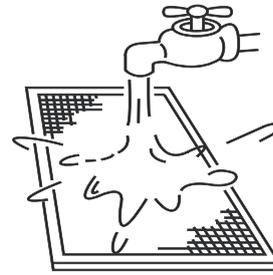

Figure 15.4
- The air intake side should face down when using clean water. (Refer to Figure 15.4)